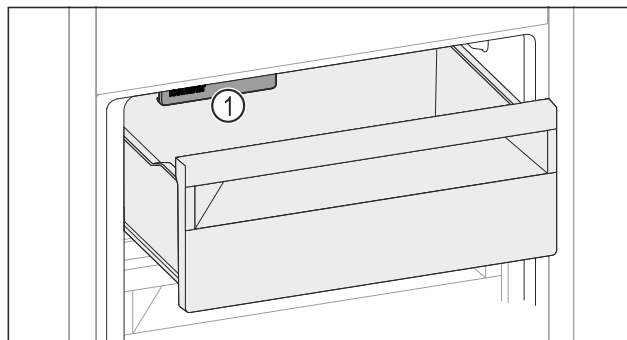

Fig. 176
▶ Uzmite u obzir IceMaker Fig. 176 (1).